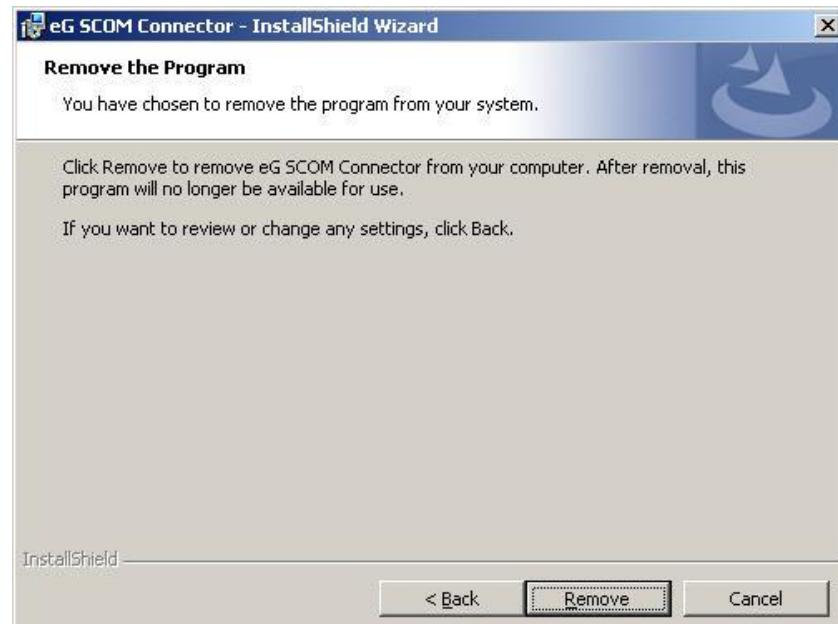

Figure 4.6: Confirming the connector uninstallation
6. When Figure 4.6 appears, click the **Remove** button here to confirm the uninstallation of the connector.